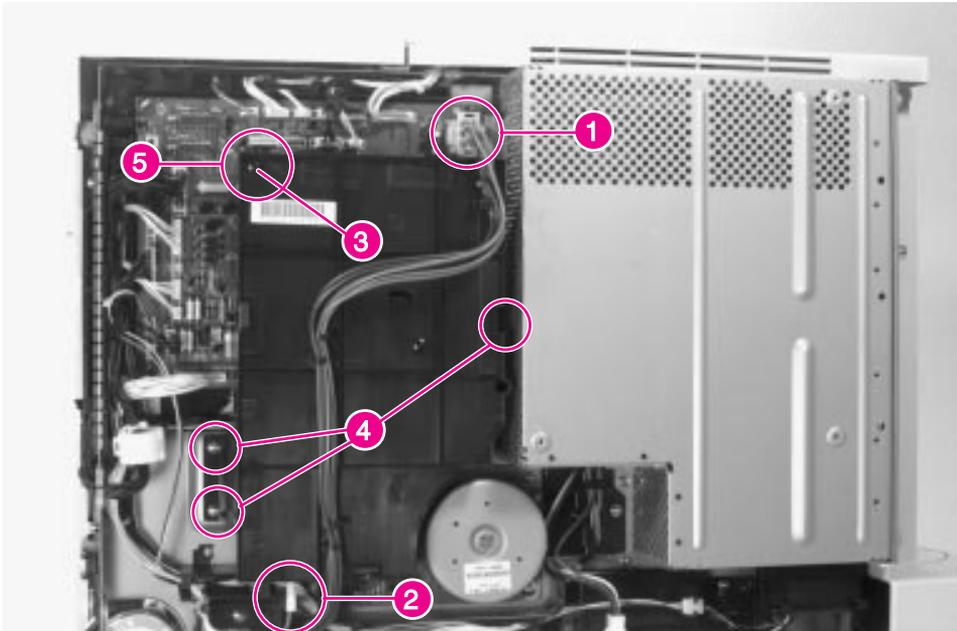

Figure 6-41 High Voltage Power Supply
- High Voltage Power Supply (HVPS) (see figure 6-41 on page 205)
- 3 Remove the High Voltage Power Supply (see figure 6-41 on page 205).
- 2 Unplug the cable from the LVPS to the DC Controller PCA (figure 6-41, callout 1), and move it out of the way.
- 3 Unplug the connector from the bottom of the HVPS (figure 6-41, callout 2).
- 4 Remove 1 self-tapping screw (figure 6-41, callout 3) and 3 screws (figure 6-41, callout 4).
Make sure that the plastic alignment pin (figure 6-41, callout 5), the connector pins, and the high voltage contacts are properly aligned before replacing the screws.